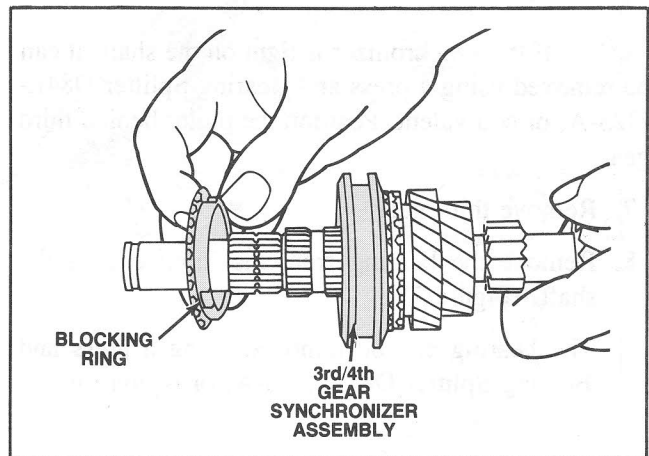

Figure 74 Blocking Ring Removal
4. Remove the blocking ring from the third/fourth gear synchronizer. (Figure 74).